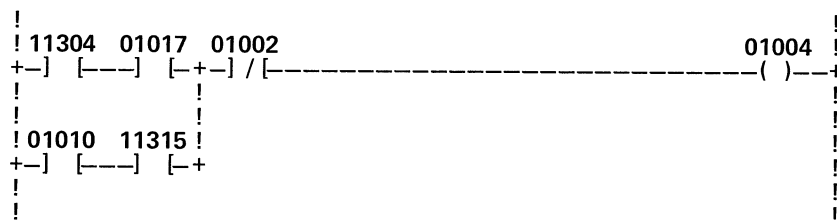

Figure 3 — Ladder Diagram Format (typical)
2.1 Program Entry — The initial development and entry of the user's PLC program is usually done manually through the PLC Program Panel. The controller uses a simple programming language, the ladder diagram, which is easy to understand; requires **no** previous programming knowledge; employs quickly recognized symbols; and parallels relay logic in format. (Refer to Figure 3 where a hardcopy printout of a segment of a typical program is shown.)
As PLC Instructions are entered on the keyboard, the corresponding "Instruction elements" are displayed on the Program Panel CRT screen. Each PLC program Instruction has a unique CRT element and position in the rung. This allows the programmer to visually confirm that the correct Instructions, addresses, and control logic are being entered. (Refer to Figure 3.)